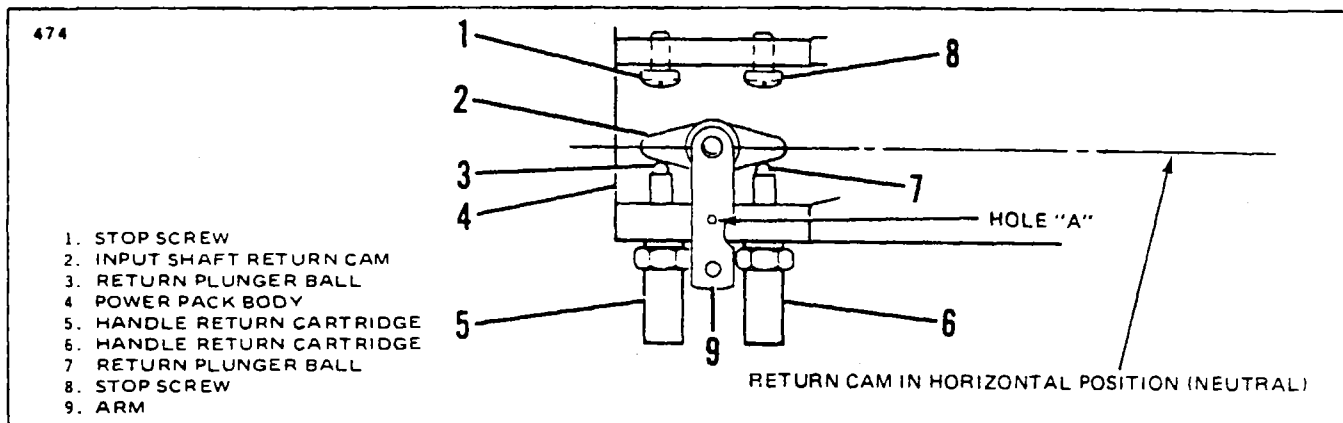

Figure 6-23. Handle Release Adjustment (Wiebel Tool)
6-87. ADJUSTMENT OF HANDLE-RELEASE MECHANISM. (Refer to Figure 6-23.) The following procedure outlines the adjustments to set the handle-release cartridges and stops in the correct position before installing the Power Pack into the airplane.
c. Rotate the input shaft to the neutral position, which will bring the input shaft return cam (2) to the horizontal position.
d. Hold the input shaft return cam (2) in the horizontal (neutral) position by inserting a .125 dia. drill or punch through hole in the arm (9) and into rigging hole in body (4). Rigging hole is noted as hole "A" in Figure 6-23. Adjust handle return cartridges (5 and 6) in such a manner that their return plunger balls (3 and 7) touch the surface of the input shaft return cam (2) slightly.